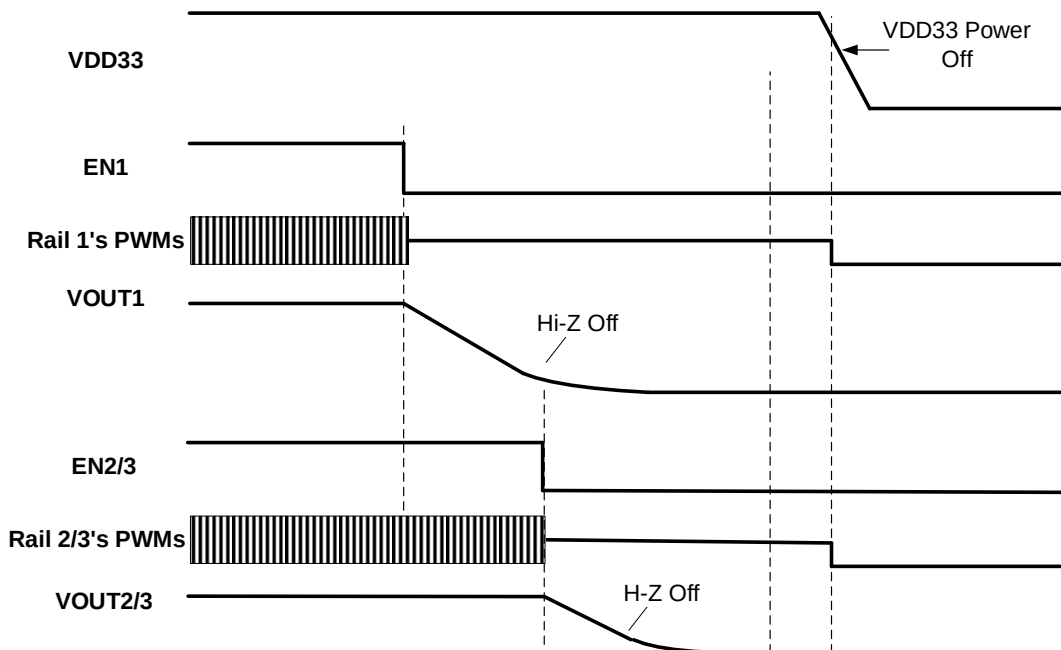

Figure 6: Shutdown Sequence in Low-Power Mode with Hi-Z Off
Figure 6 shows the EN pin soft shutdown power sequence in regular power mode.
Use Equation (5) to calculate the voltage divider ratio in Figure 6: